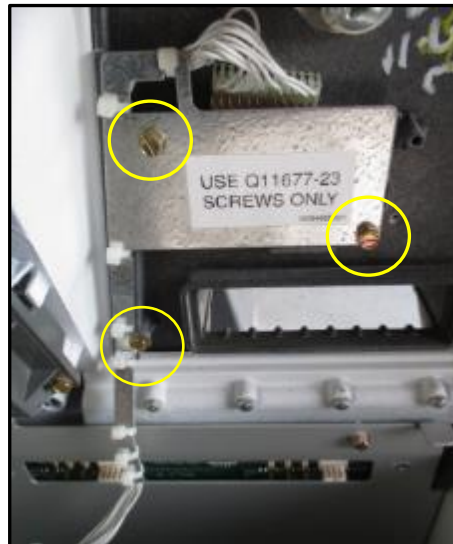

Fig 1.6 – Location of ADA Keypad Plate screws
8. Remove and discard the three ¼” screws that fasten the ADA keypad plate to the dispenser door (if present). (Fig 1.6)